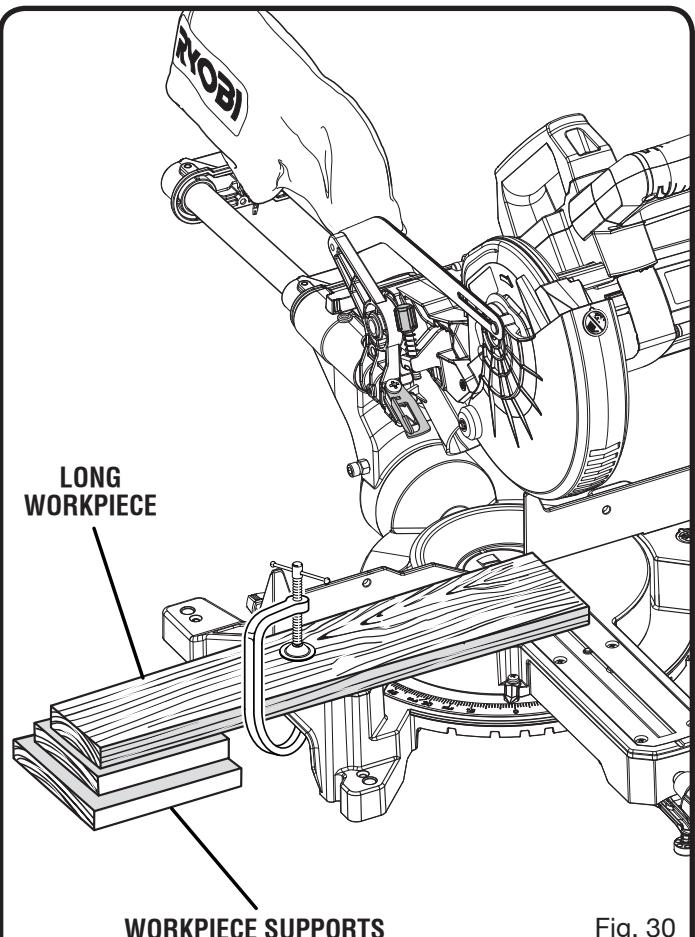

Fig. 30
- When cutting long pieces of lumber or molding, support the opposite end of the stock with a roller stand or with a work surface level with the saw table. *See Figure 30.*
- When cutting long pieces of lumber or molding, support the opposite end of the stock with a roller stand or with a work surface level with the saw table. See Figure 30.
See Figure 30.
- When cutting long pieces of lumber or molding, support the opposite end of the stock with a roller stand or with a work surface level with the saw table. See *Figure 30*.